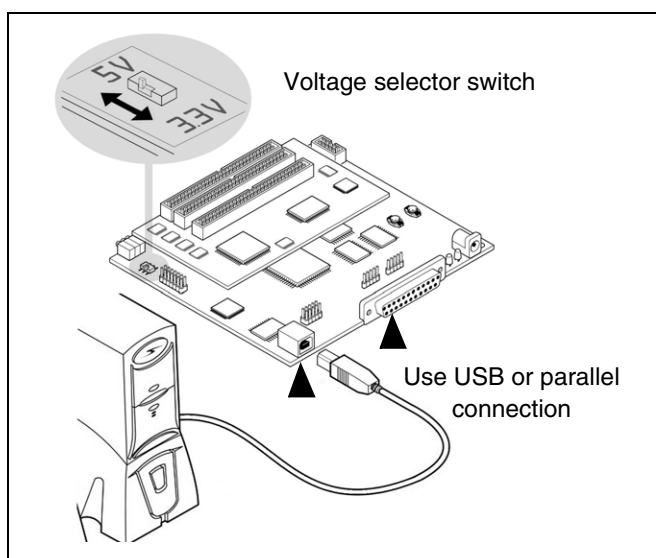

Figure 3: Connect your PC
STEP 1: Connect your emulator to your host PC via parallel or USB port, as shown in Figure 3. For more details about PC connection, refer to Chapter 3: Connectivity on page 12.
STEP 2: Switch the ST7-DVP3 emulator to the selected operating voltage, either 3.3V or 5V, as shown in Figure 3.